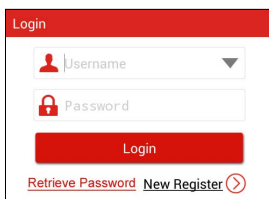

Fig. 5-5
Tap the  icon on the desktop to launch the application, and then tap "Login" to enter the login interface of diagnosis software, as indicated in Fig. 5-5.
2. If you have registered to be a member, input your name and password in Fig. 5-5, and then tap the “LOGIN” button to enter the main menu screen directly.